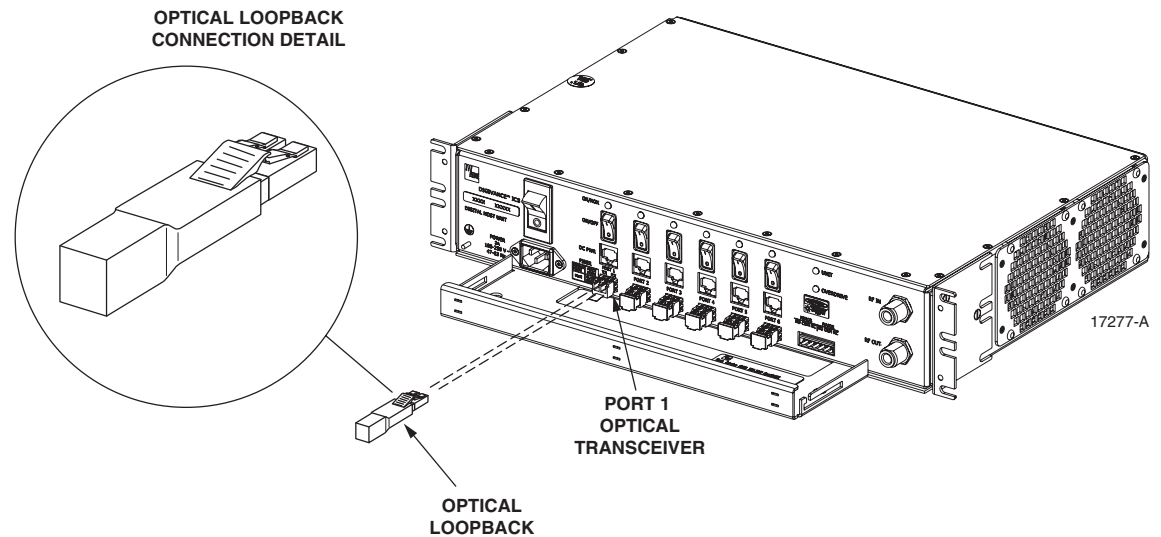

Figure 25. DHU/DEU Loopback Test
4. Plug a loopback into the optical port to be tested as shown in Figure 25.